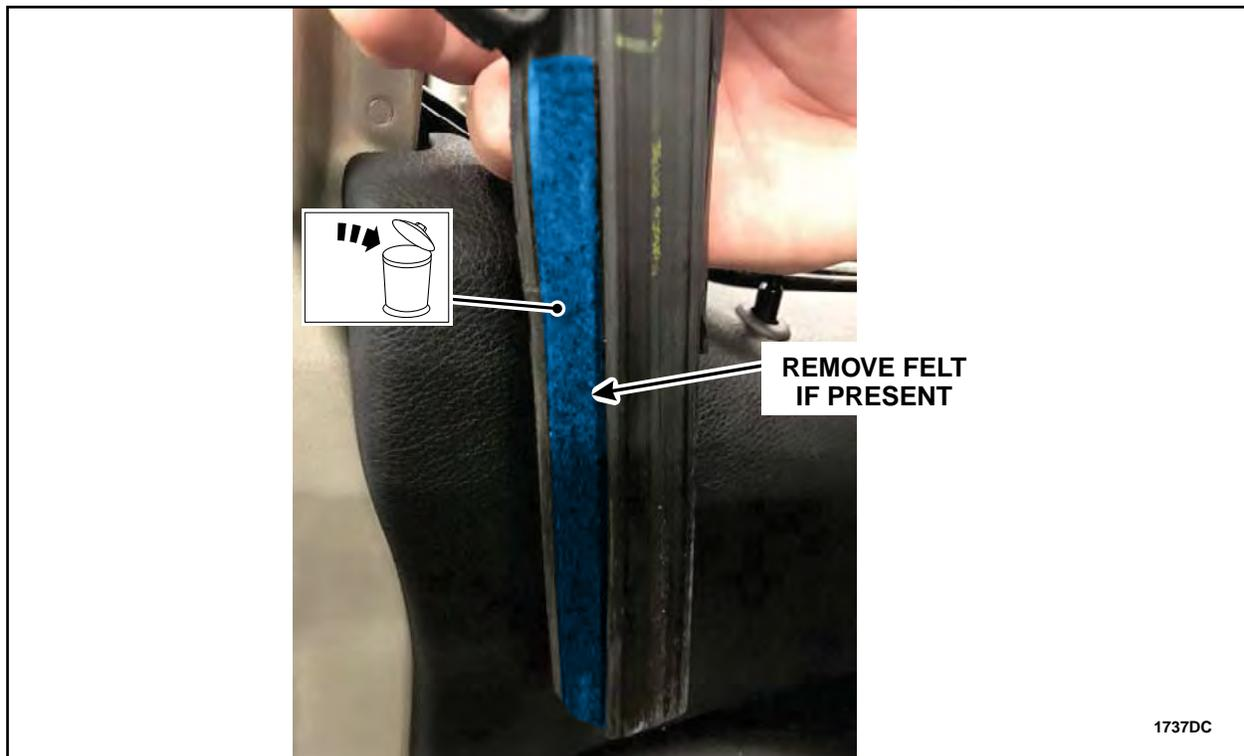

FIGURE 71
13. If present, remove and discard the felt on the rear door glass top run. See Figure 71.